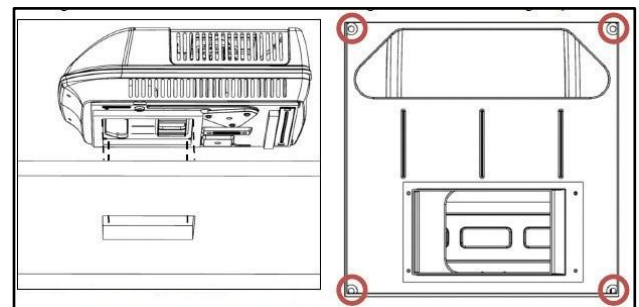

Fig 7- Shows the view from under the roof.
- Position the unit so that the four M8 mounting holes will line up with the four corners of the square roof hole (Fig 7).